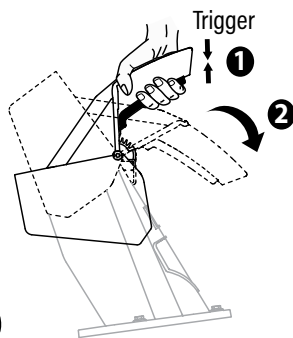

Fig. 11C
2. To decrease the distance that the snow is thrown, simply lower the deflector with the chute-deflector handle. (Fig. 11C)